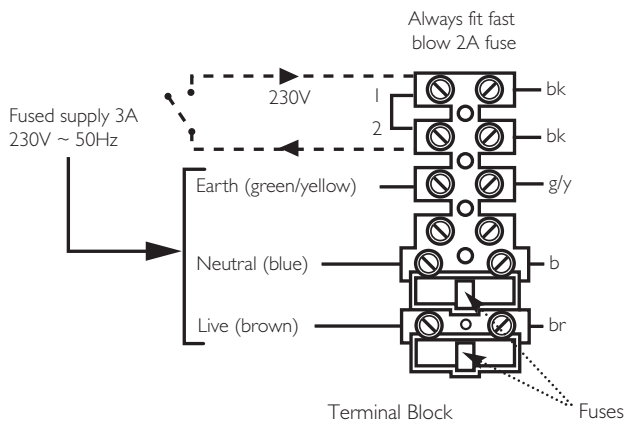

Fig. 50
6. Remove the link between terminals 1 & 2. The switched output from the external control must be connected to terminal 1. (Fig. 50).